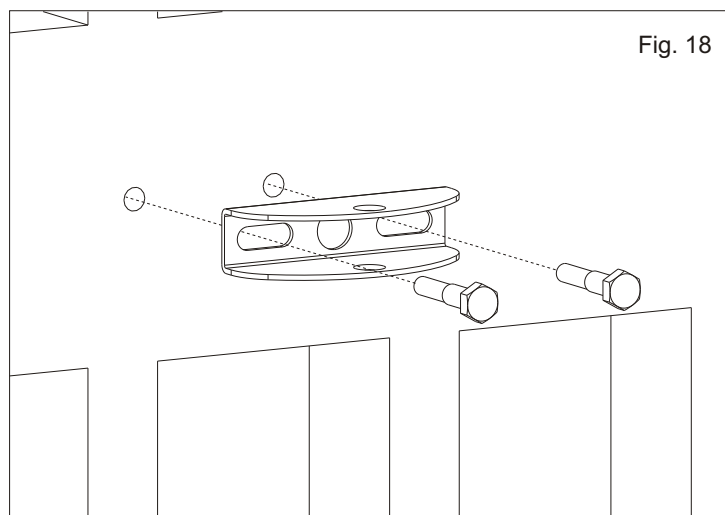

Fig. 18
- Perforate the leaf and fix the front bracket with the screws (Fig. 18)